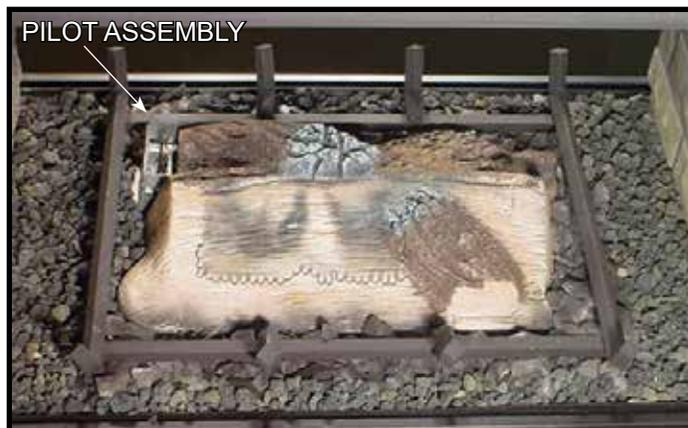

Figure 9.8 Placement of Ember Materials
- When placing Glowing Embers® onto the burner care should be taken so that the ports are not covered. Place the dime-size ember pieces just in front of the port trail, but not on or in between the ports (see Figure 9.8). Failure to follow this procedure will likely cause lighting and sooting problems.